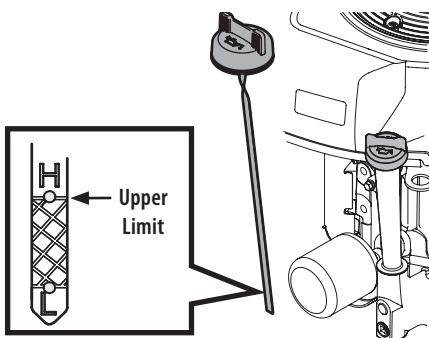

Figure 2
- Keep oil at the upper limit on the dipstick (Figure 2 inset).
1. Remove the oil fill cap and wipe the dipstick clean (Figure 2).
3. Loosen and remove the oil fill cap from the oil fill neck. Note the oil level, if oil reading on the dipstick is below the upper limit, slowly add oil to reach the upper limit (Figure 2 inset).
1. Locate the oil drain valve (a) and place a suitable container below the plug (Figure 2).